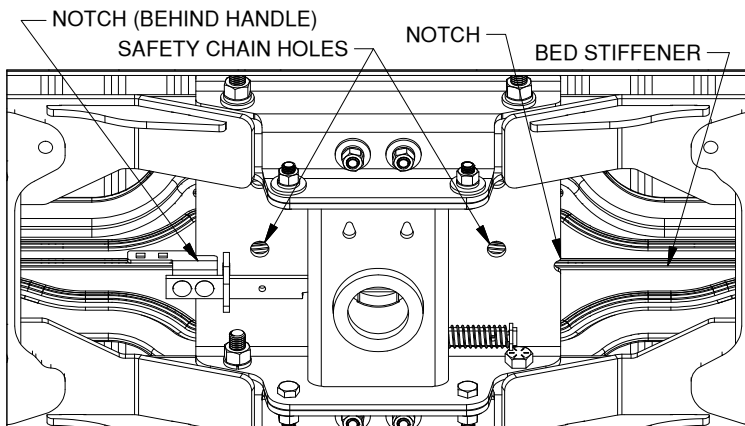

Figure E1: View looking up under the bed.
3. **Square the center section.** The center section has notches and safety chain holes on each side, see Figure E1. Compare the location of these notches and holes with the grooves and geometry on the bed stiffener. Rotate the center section and cross members until the notches and holes are evenly aligned on both sides with the stiffener.